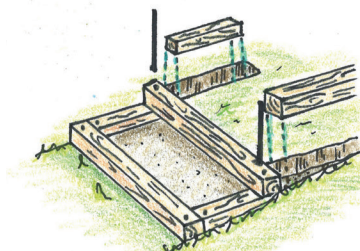

Figure 5
**STEP 8. Build second step.** To build the next step, measure from the front of the first riser timber and mark the tread depth on the side timbers with a pencil. Align the front of the second step riser timber with the pencil lines on the side timbers of the step below. Secure the riser timber to the side timbers using 12" galvanized spikes (Figure 5). To make it easier to drive the galvanized spikes into the timber, you can pre-drill holes to about 5" deep.
**STEP 9. Excavate side timbers.** Set and anchor side timbers by driving the steel rebar through the drilled holes on the end of each timber into the ground (Figure 5).